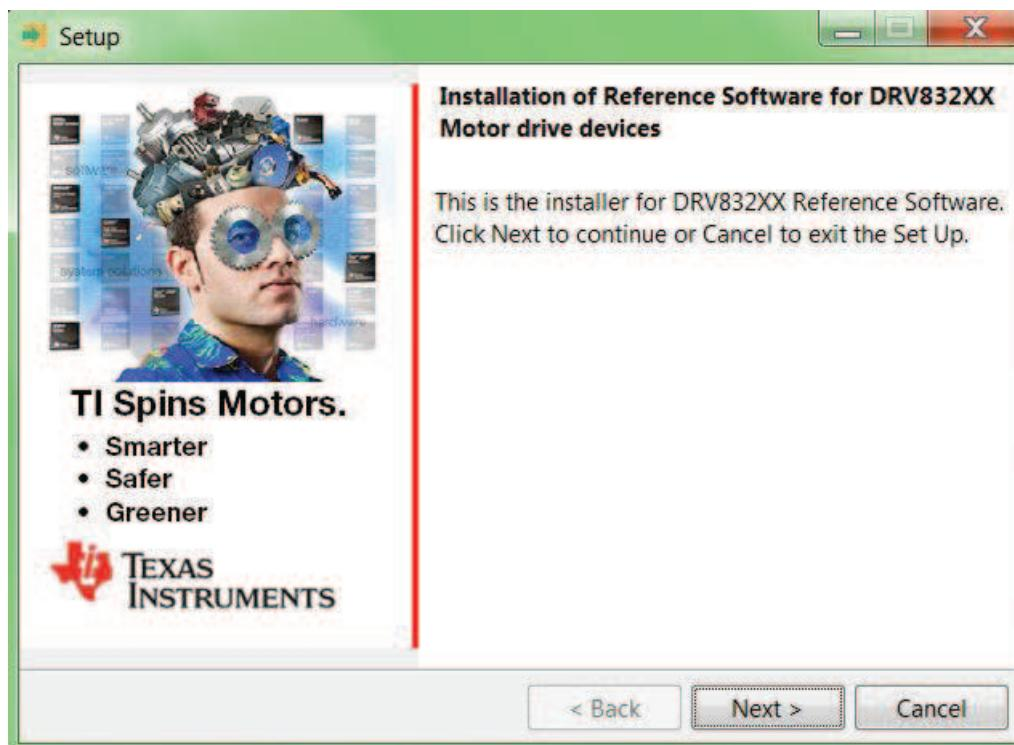

Figure 16. Setup Home Screen
Step 3. Click the *Next* button on the DRV832XX Installer welcome screen (see Figure 16).